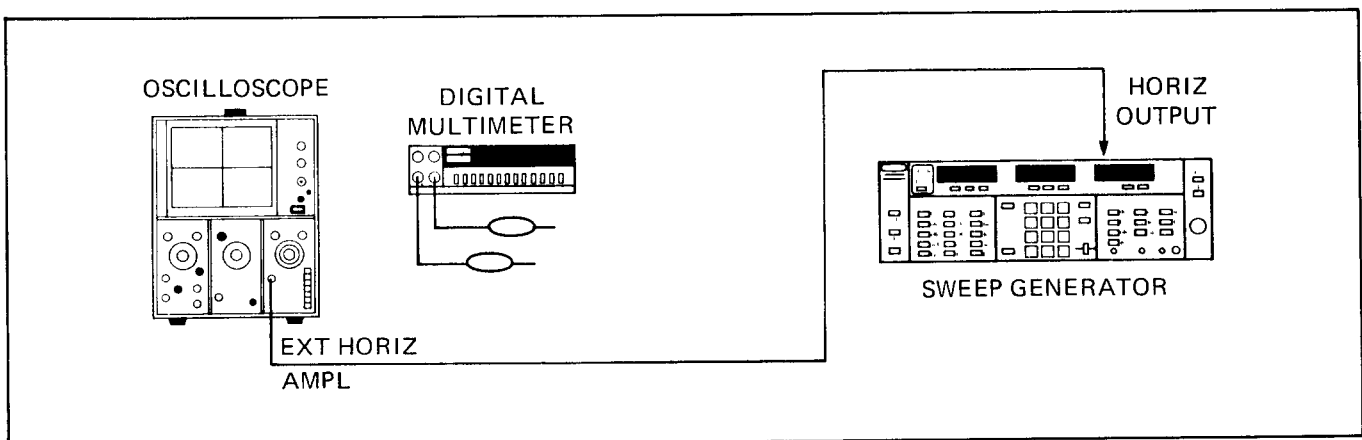

Figure 5-19. Test Equipment Setup for the A7 YIG Driver Adjustments
1. Set up the test equipment as shown in Figure 5-19, and turn the equipment on.